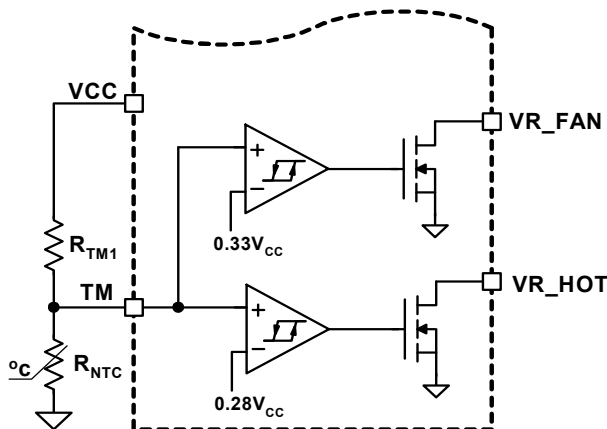
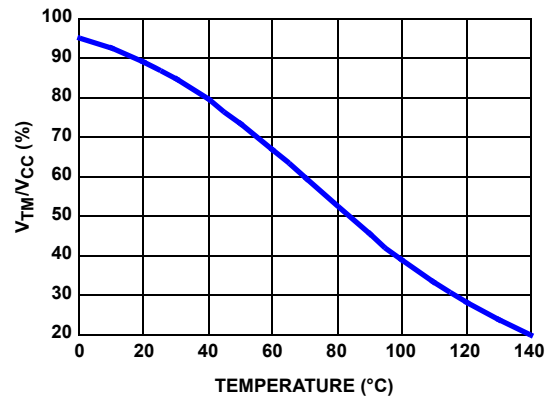

FIGURE 12. BLOCK DIAGRAM OF THERMAL MONITORING FUNCTION
FIGURE 13. THE RATIO OF TM VOLTAGE TO NTC TEMPERATURE WITH RECOMMENDED PARTS
The diagram of thermal monitoring function block is shown in Figure 12. One NTC resistor should be placed close to the power stage of the voltage regulator to sense the operational temperature, and one pull-up resistor is needed to form the voltage divider for TM pin. As the temperature of the power stage increases, the resistance of the NTC will reduce, resulting in the reduced voltage at TM pin. Figure 13 shows the TM voltage over the temperature for a typical design with a recommended 6.8k Ω NTC (P/N: NTHS0805N02N6801 from Vishay) and 1k Ω resistor RTM1. We recommend using those resistors for the accurate temperature compensation.
Based on VCC voltage, ISL6327 converts the TM pin voltage to a 6-bit TM digital signal for temperature compensation. With the non-linear A/D converter of ISL6327, TM digital signal is linearly proportional to the NTC temperature. For accurate temperature compensation, the ratio of the TM voltage to the NTC temperature of the practical design should be similar to that in Figure 13.
1. Properly choose the voltage divider for TM pin to match the TM voltage vs temperature curve with the recommended curve in Figure 13.